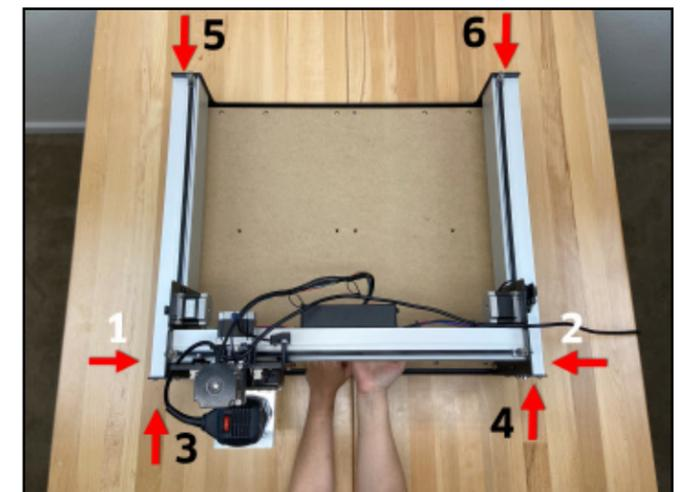

Figure 9-4
4. **MAINTAIN FORWARD PRESSURE** and use the 4mm hex key to fully tighten the sixteen (16) M6×12mm button head cap screw sets 1-4, in numbered order, shown in **Figure 9-4**.
5. Move the X-rail to the rear and **MAINTAIN REARWARD PRESSURE** and use the 4mm hex key to fully tighten the eight (8) M6×12mm button head cap screw sets 5-6, in numbered order, shown in **Figure 9-4**.
6. Use the 3mm hex key to fully tighten the twelve (12) M5×25mm button head cap screws of the MDF baseplate.